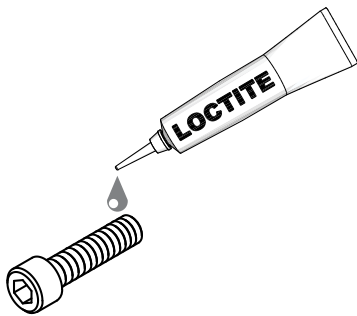

Figure 8. Apply Loctite® 242™ (Trunnion Bolt)
- Apply Loctite® Blue 242™ thread sealant (P/N 1477) to the threads on a new M12-1.75 × 30 mm SHC bolt (P/N 939654). See Figure 8.